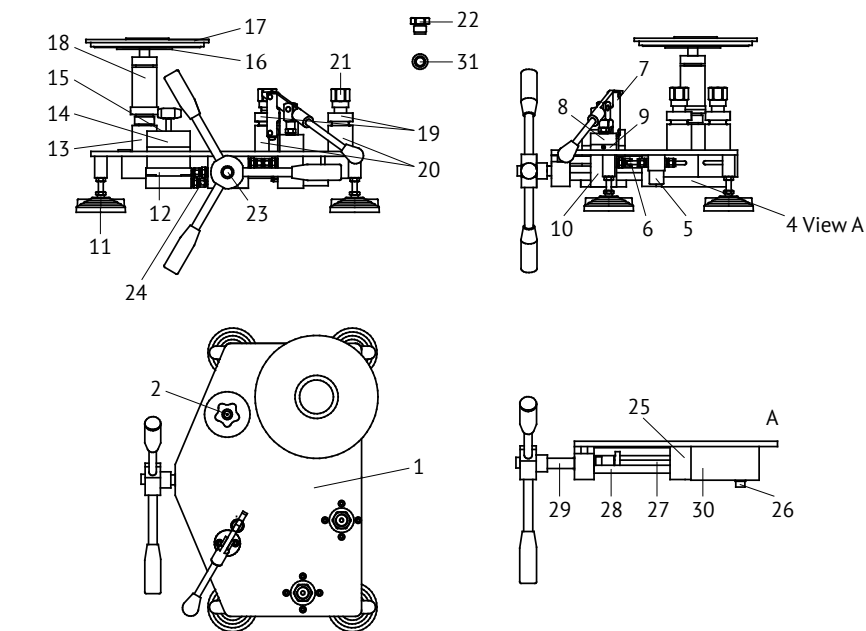
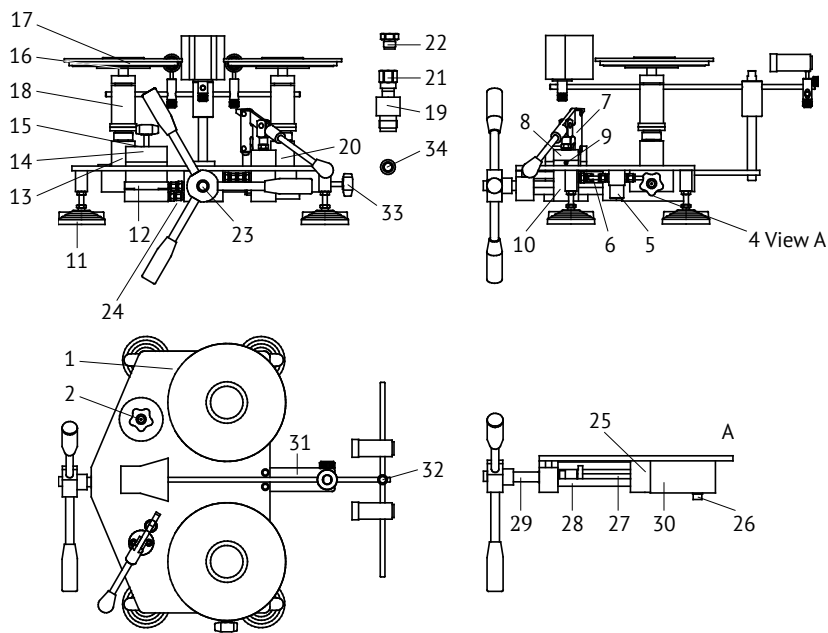

Fig. 1. Pressure balance MP-6 in common version:
Fig. 3. Pressure balance MP-6 in special version:
4.2 Pressure balance is composed of three parts, i.e. pressure development device, Piston-cylinder assembly and set of weights. Pressure balance base is composed of a steel plate 1 (Figs. 1-4) provided with four adjustable supports 11. Main rod assembly consists of guide bush 25, main rod 27, fluid drain screw 26, studs 28, screw 29 and main unit 30. Hand pump 7 is made as a separate unit and consists of case 10, guide bush 8, seal washer 9 and the system of levers. Hand pump is connected with pressure balance hydraulic system via tubes. Barrel 14 for working fluid is arranged from the left side, as well as pressure release valve 2. PSA is fitted at the left post (PSA post) while tested measuring instruments are set at either adjusted posts 20 (Figs. 3, 4) directly or via adapter 19 (at special-version devices), or at post(s) 20 (Figs. 1, 2) for tested measuring instruments with preliminary fitted adapter 19 at common-version instruments by means of coupling nut 22. Reference PSA vertical position is adjusted by supports 11, while adjustable post vertical position (on special version measuring instruments) is adjusted by screws that attach the adjustable post to the plate. Pressure smooth adjustment is effected by flywheel 23. Oil is fed to assemblies via tubes 6 jointed by fittings 24. Fine filter 5 is connected in hydraulic circuit to up reliability and to prevent device damage.
6.6 Pull the main rod, turning the flywheel counterclockwise against the stop to tighten the shutoff valve 33 (Figs. 3, 4) (special version).
6.11 Use smooth pumping to force oil in the system so that oil does not splash out from the PSA body and adapter holes (of tested PSA body) and continuously control the oil level in the barrel (add, if required). When oil level in adapter holes lifts to top edge, coupling nuts are to be fitted in adapters, as well as rubber-metal seals and plugs (at pressure balance in common version and special version at the use of adapter at post 20 (Figs. 3, 4)). Force oil unless it appears in the PSA cylinder channel.
6.19 Place base 31 (Figs. 3, 4) of the piston position control device on pressure balance base.